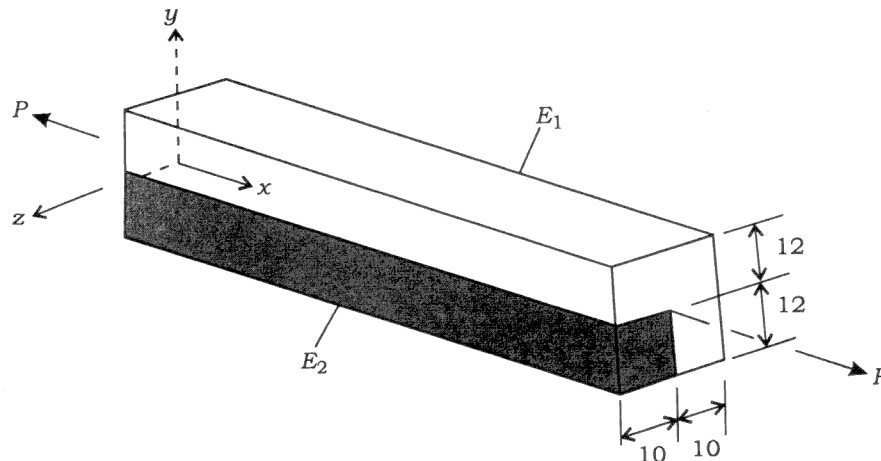

Fig. 4(a)
4. (a) A composite bar of rectangular cross-section 20 mm × 24 mm is loaded in tension by a force $P = 1$ kN as shown in Fig 4(a) below. The shaded part of the bar is made of a material where Young's modulus is $E_2 = 210$ GPa. The remaining part is made of a material with $E_1 = 105$ GPa. If the bar is to deflect in the x -direction, determine the stresses in each material and the location of the loading axis relative to the centre of the bar :
(b) Design an interior slab panel 'S-1' as shown in Fig. 4(b) by limit state method. This slab panel is supported and monolithic constructed with RCC frame structure. The following parameters may be used :